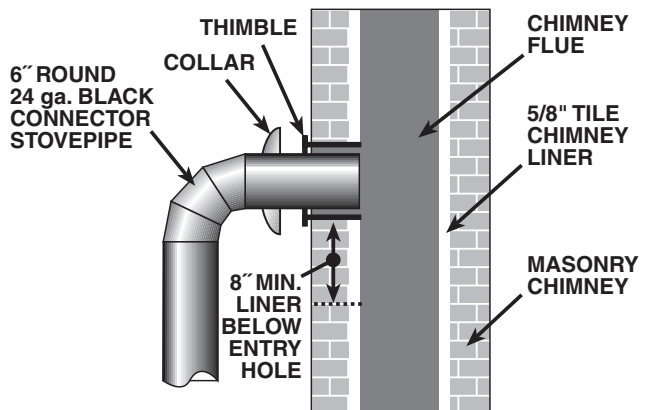

Figure 10 - Masonry Chimney Connection
Before using an existing masonry chimney, clean the chimney, inspect the flue liner and make any repairs needed to be sure it is safe to use. Make repairs before attaching the stove. The connector stove pipe and fittings you will need to connect directly to a lined masonry chimney are shown in figure 10.
2. Install a metal or fire clay (5/8" minimum thickness) thimble. Make sure the thimble is flush with the inner surface of the chimney liner and does not protrude into the flue (see figures 10).